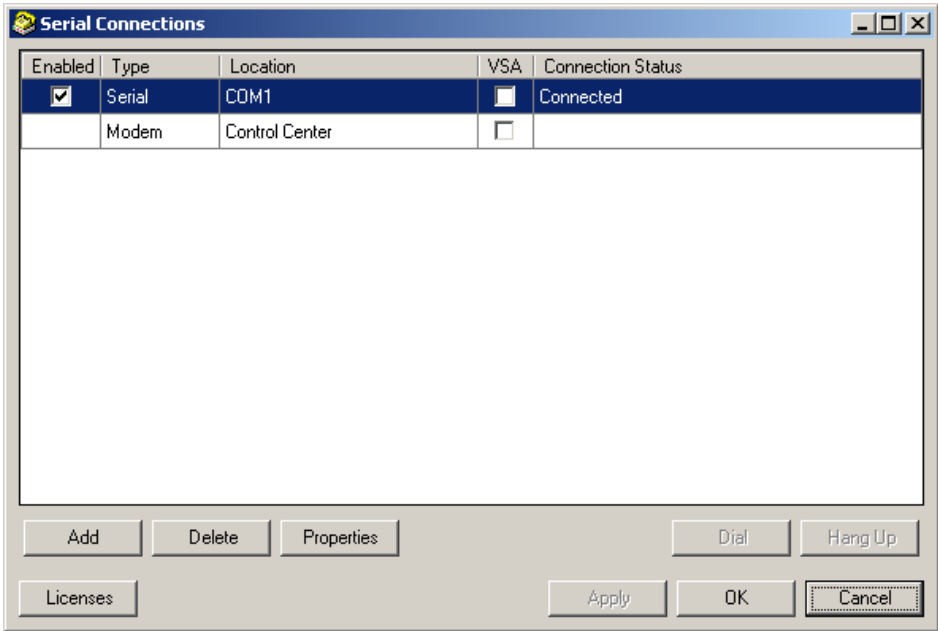

Figure 19: Serial Connections View
5. Start VistaNET. Click on the "Serial and Modem Connections" button () in the System Icon Toolbar. This opens up the Serial Connections window (Figure 19).